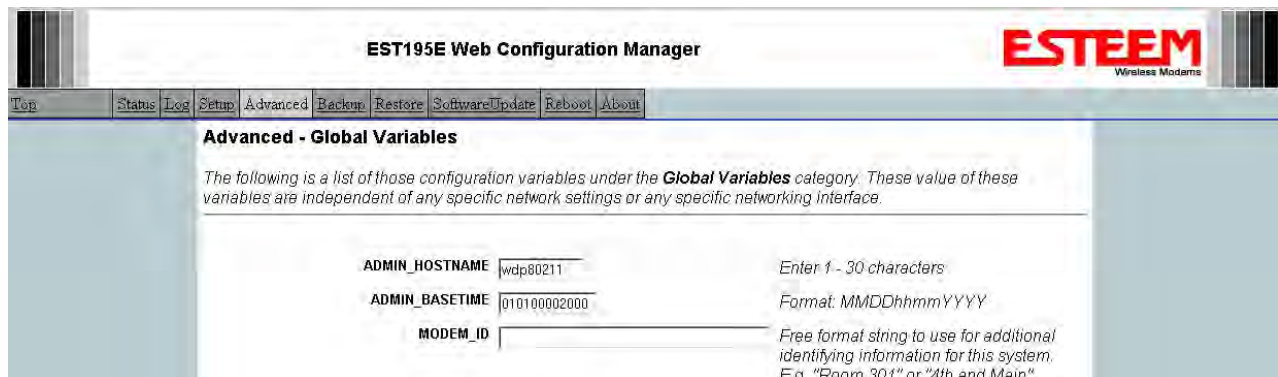

Figure 4: Modem ID Field in Global Variables Screen
2. Scroll to the bottom of the Global Variables window and enter the text you would like displayed in the Modem ID field (Figure 4). When complete, press the *Save Settings* button and the *Commit Changes* button on the next screen to save the name to the 210.